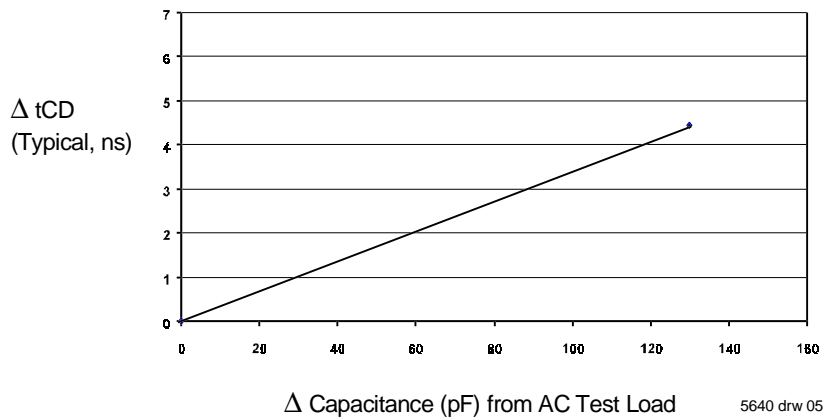

Figure 2. Typical Output Derating (Lumped Capacitive Load).
- Transition is measured 0mV from Low or High-impedance voltage with the Output Test Load (Figure 2). This parameter is guaranteed by device characterization, but is not production tested.
1. Transition is measured 0mV from Low or High-impedance voltage with the Output Test Load (Figure 2).
3. Transition is measured 0mV from Low or High-impedance voltage with the Output Test Load (Figure 2).